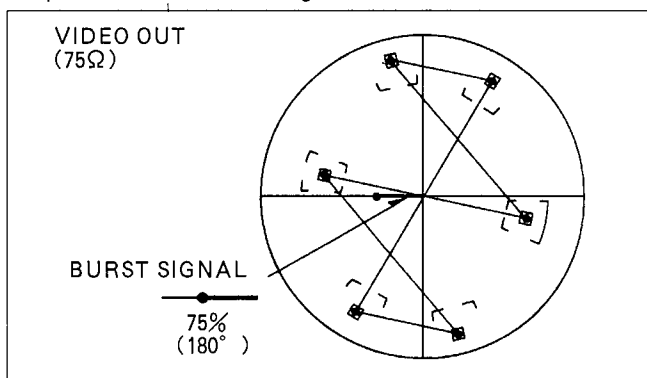

Figure E31
SPEC.	FIG. E31
3. Adjust VR8814 so that the all vectors become correct position as shown in Figure E31.